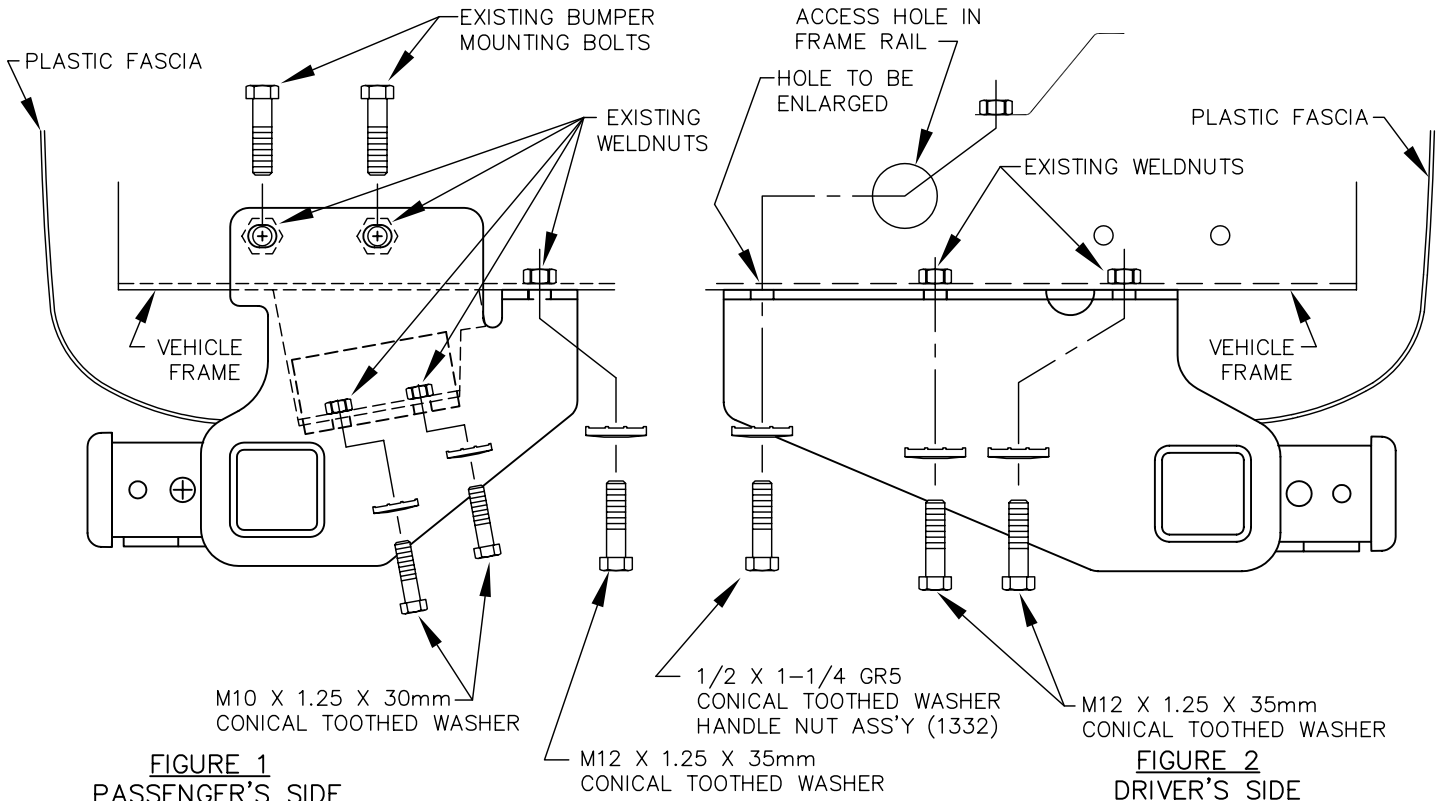

FIGURE 1
3. LOOSELY INSTALL FASTENERS INTO EXISTING WELDNUTS AS SHOWN IN FIGURES 1 & 2.